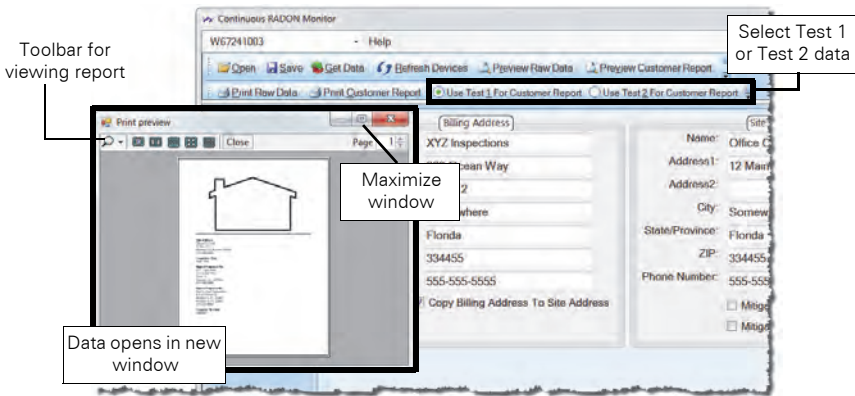

Figure 15. Preview Report
- 4 Click **Preview Customer Report**. The selected report opens in a new window (Figure 15 on page 22). The viewer's toolbar offers viewing options.